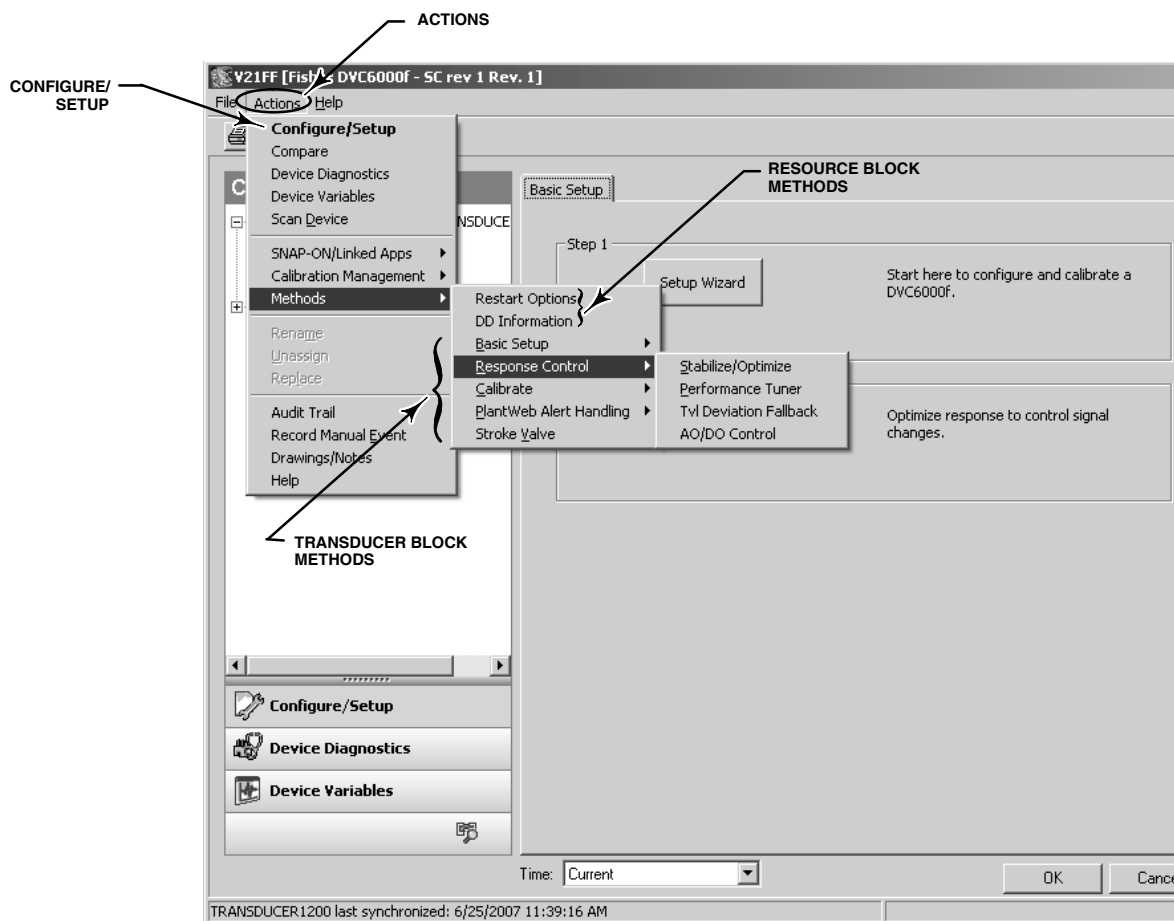

Figure F-3. Actions Menu
5. Locate Methods in the Actions menu, as shown in figure F-3 and right-click once.
The Restart Options method and the DD Information method are available via the resource block. Refer to figure F-3 and the following steps to access these methods.
5. Locate Configure/Setup in the Actions menu (see figure F-3) and left-click to access Configuration and Setup parameters.